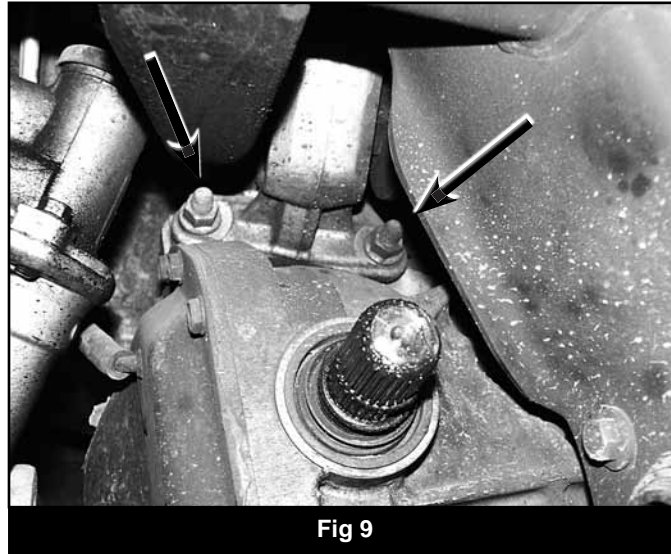

Fig 9
26. Using a jack, support the differential. Loosen and remove the two forward-most differential mounting bolts on the driver's side (Fig 9). Loosen but do not remove the three rear driver's side bolts (Fig 10) and the two passenger's side bolts (Fig 11).